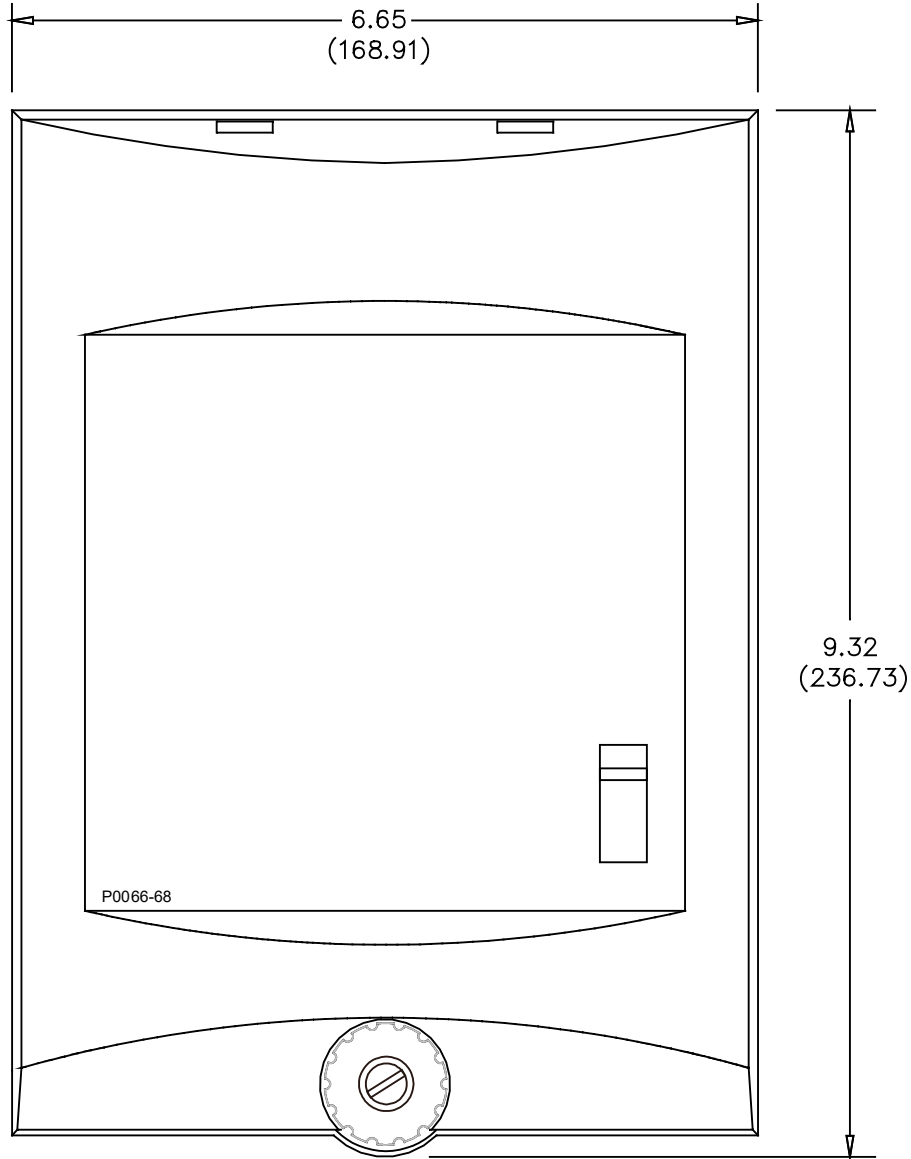

Figure 4-12. S1 Case Cover Dimensions, Front View
- Figure 4-12: S1 Case Cover Dimensions, Front View